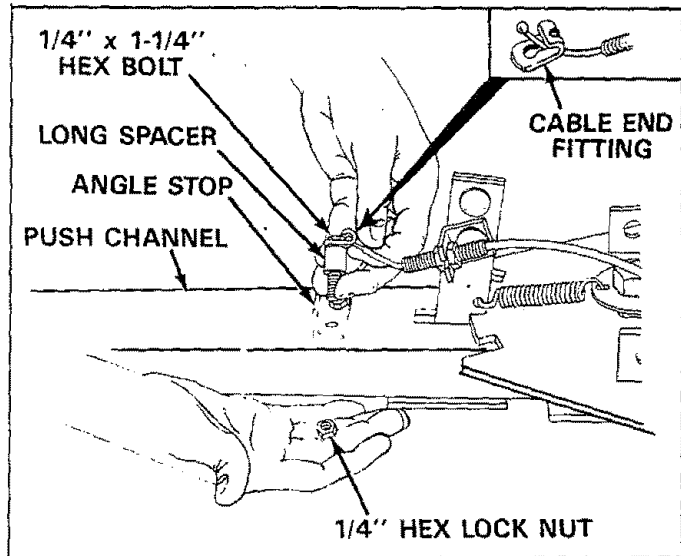

FIGURE 8
8. Assemble 1/4" x 1-1/4" hex bolt down through cable end fitting, through long spacer, angle stop, (right hand hole) and through channel. See figure 8. Secure with 1/4" hex lock nut and tighten the other 1/4" hex lock nut, which was left loose in step 4. NOTE: Keep cable and fitting in alignment when tightening nuts.